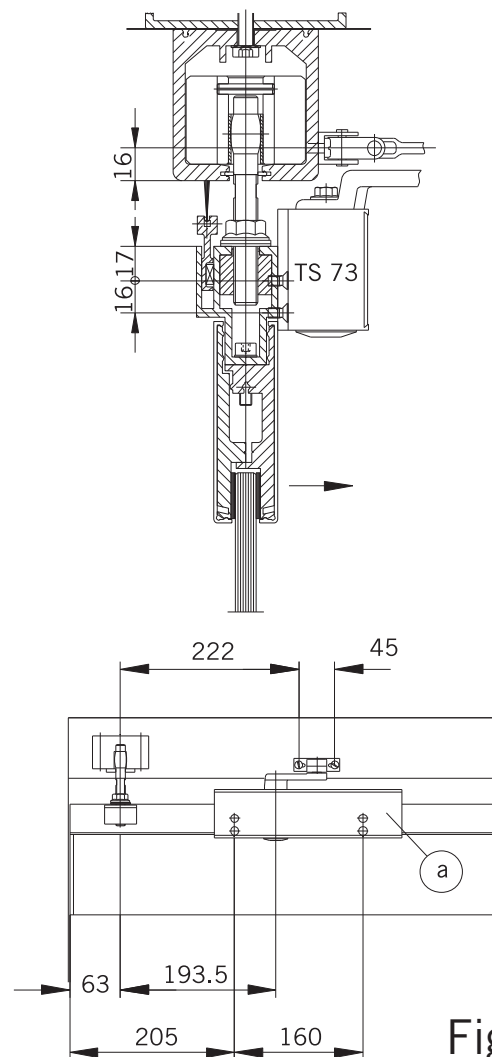

Fig. 6
6. Pivoting end panel with TS 73 top door closer (Fig. 6):